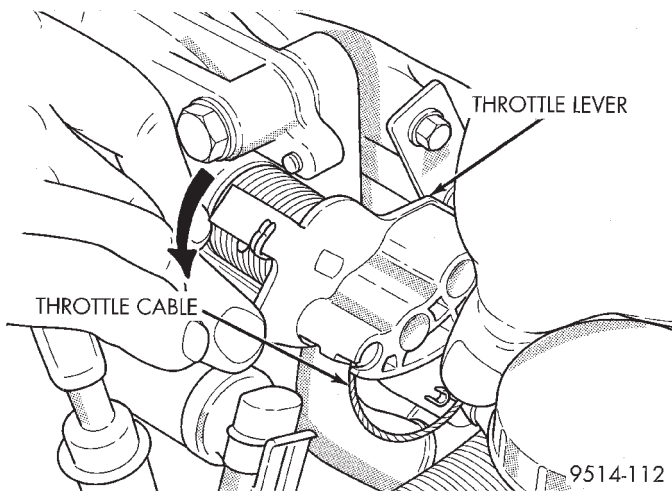

Fig. 66 Throttle Cable Attachment to Throttle Body
- (1) Remove air tube from throttle body.
- (2) Remove throttle cable from the throttle body lever (Fig. 66).